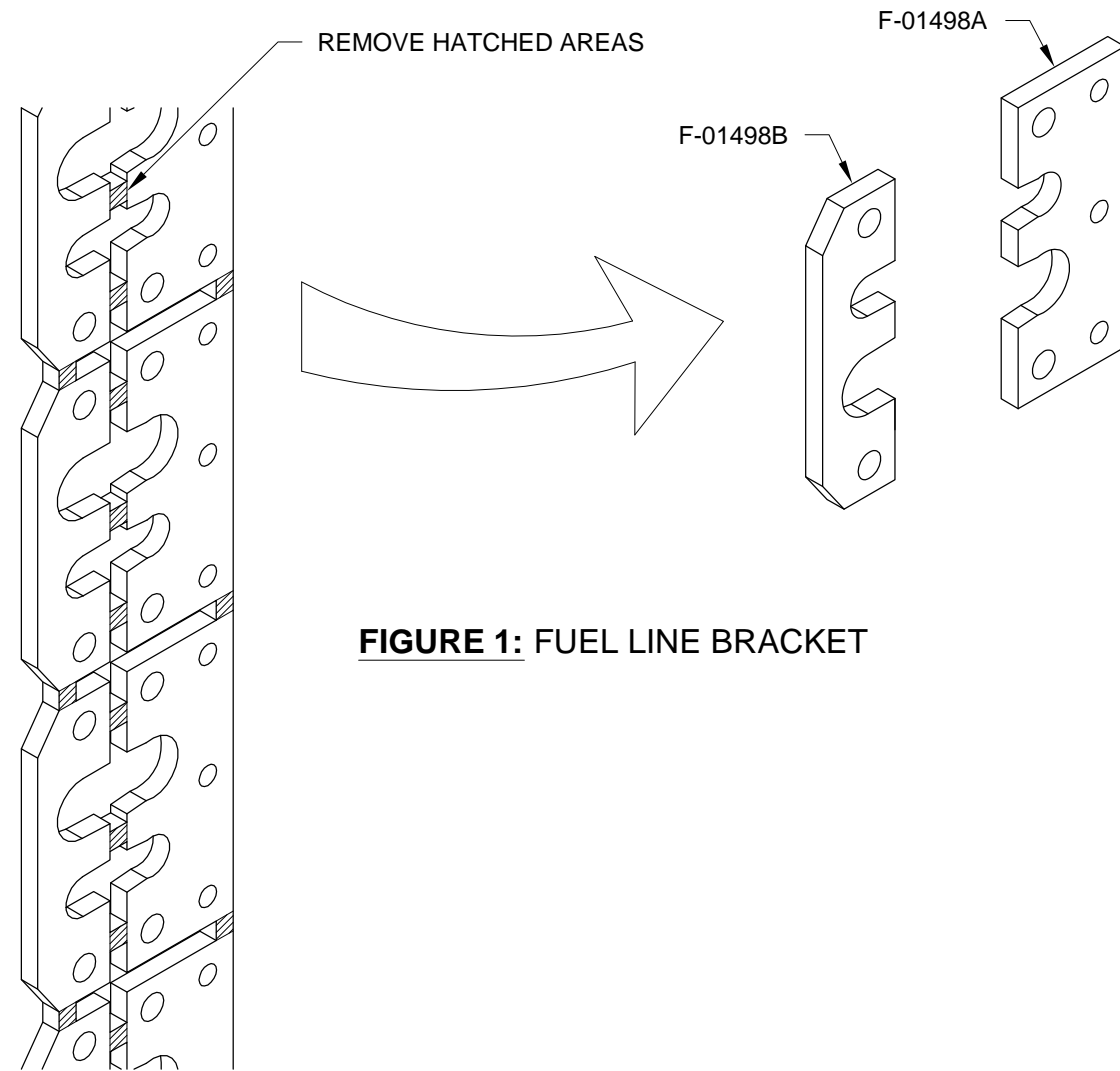

FIGURE 1: FUEL LINE BRACKET
Step 1: Separate the eight F-01498 Fuel Line Brackets as shown in Figure 1.